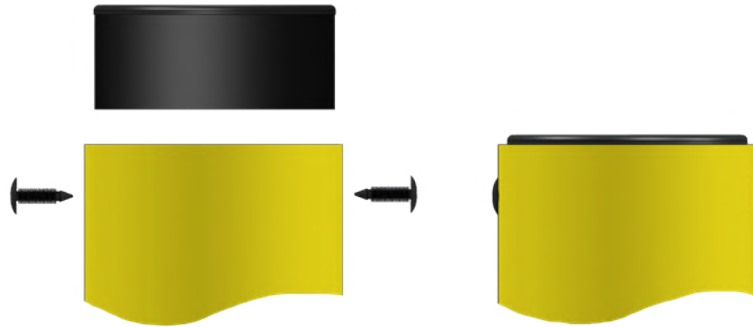

Figure 7. Installation and fixation of post caps
5. Cover the tops of the posts with caps. After installing the caps, they must be fixed with screws (2 screws per cap). For this reason, drill 7 mm holes with a drill in the plane of the barrier symmetry in the post at a distance of 20-25 mm from the top of the yellow pipe of the post, and hammer the screws into them (the axes of these holes must be oriented in the same direction as the section elements, see Fig. 7).